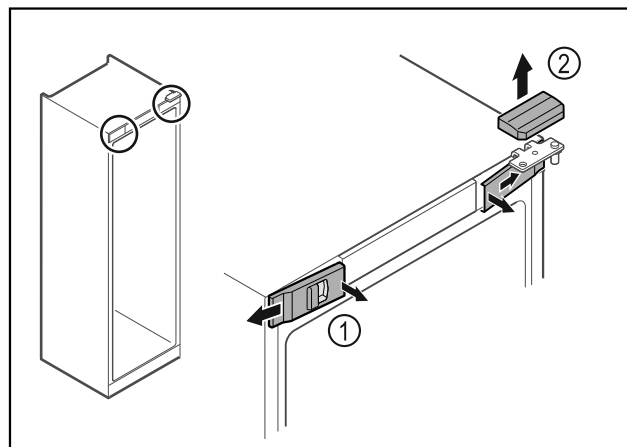

Fig. 5
- ▶ Unlatch the front covers *Fig. 5 (1)* on the inside and remove them sideways.
- ▶ Lift off the upper cover *Fig. 5 (2)*.